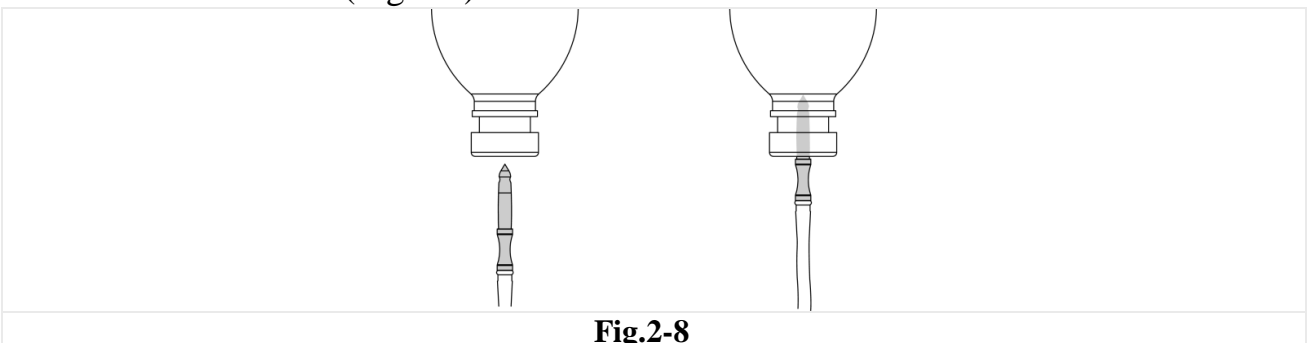

Fig.2-8
6. Connect the end of the irrigation tube to the bag containing the appropriate liquid for the treatment (Fig.2-8).